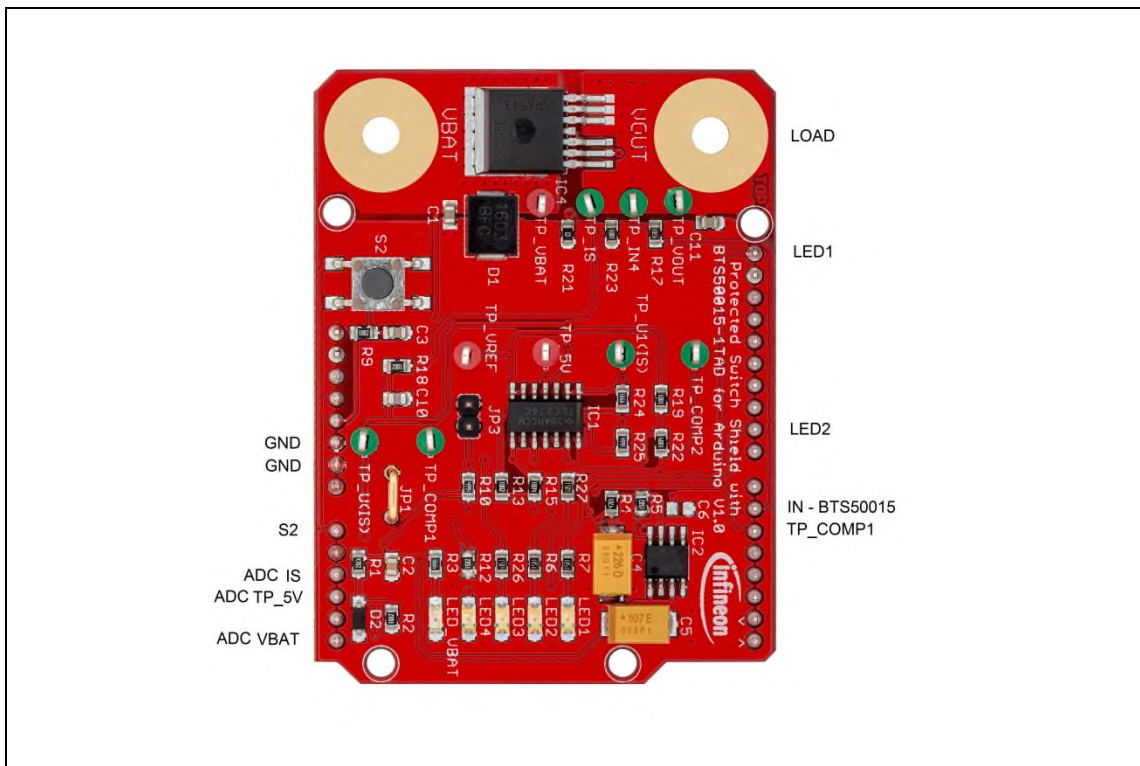

Figure 6 High Side Switch Shield connectors
As mentioned before the High Side Switch Shield can be operated in two ways, in the stand alone mode (Shield only) or together with an Arduino controller board like the XMC1100 Boot Kit. All necessary control and sense signals can be applied directly at the Arduino™ connectors. The pin IN from BTS50015-1TAD uses a comparator with hysteresis. The switching ON / OFF takes place in a defined region, set by the threshold $V_{IN(L) Max}$ (0.8V) and $V_{IN(H) Min}$ (2.2V), therefore the pin IN can be driven by any other microcontroller or with logic level signals. Since the maximum input voltage at the pin IN can be V_{BAT} , a very flexible usage of the Shield is possible. Besides the supply voltage V_{BAT} has to be provided to the V_{BAT} connector. Figure 6 shows the pinout/connectors of the High Side Switch Shield.